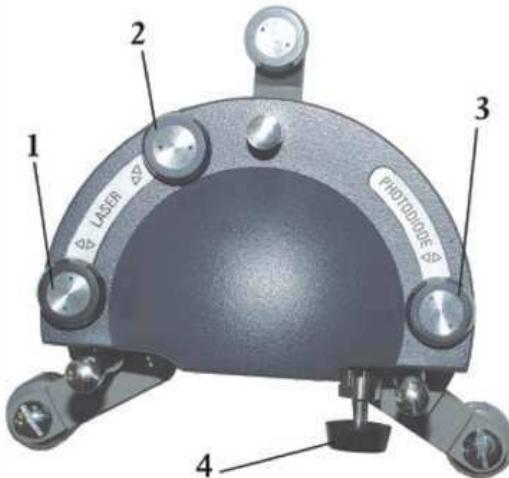

Figure 6: Control knobs on the SMENA.
and 2 in figure 6) until it appears on the tip of the cantilever. Further adjust the laser position until the laser signal is maximised, the signal should be greater than 20. If you can't get a signal larger than this you may need to adjust the photodiode position (see below). Check that the laser really is on the cantilever.
10. Since the cantilever should still be far from the surface it should not be bent or flexed in anyway. Therefore, adjust the photodiode position (3 and 4 in figure 6) so that the signals for deflection are both zero. If you can't get the signal to zero you are probably at the opposite end of range from the correct position.